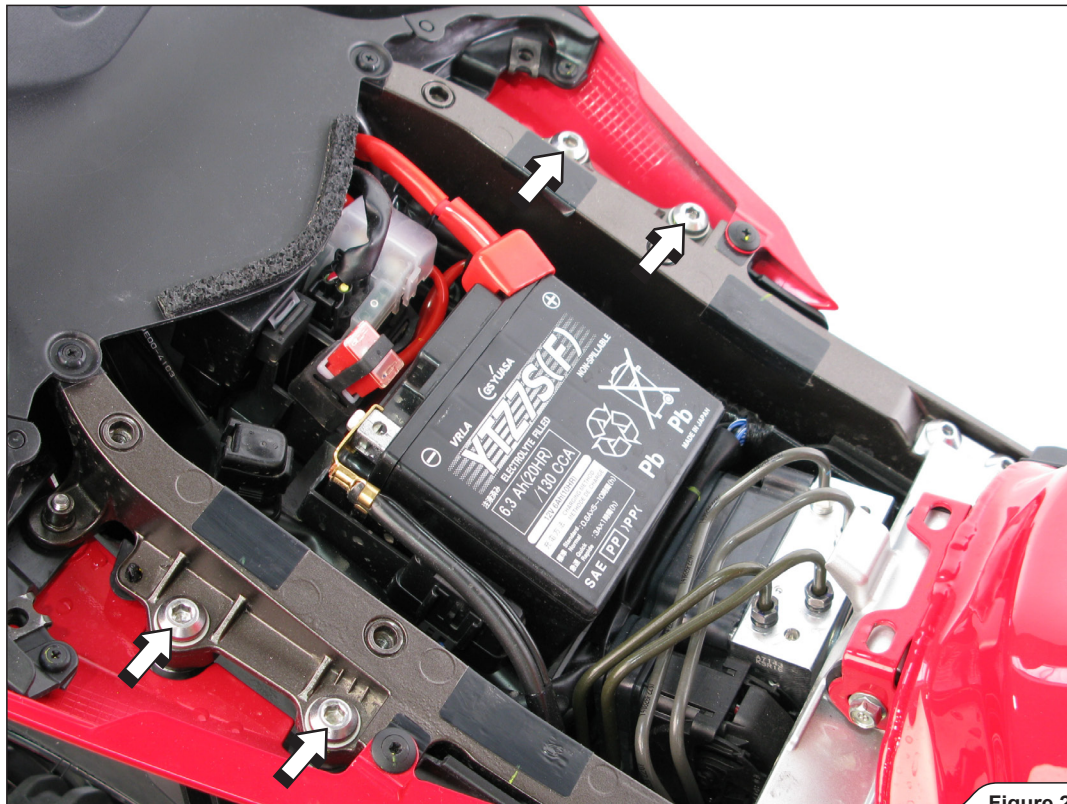

Figure 21
1. Unscrew marked bolts and remove passenger footrests off the motorcycle (Figure 21).